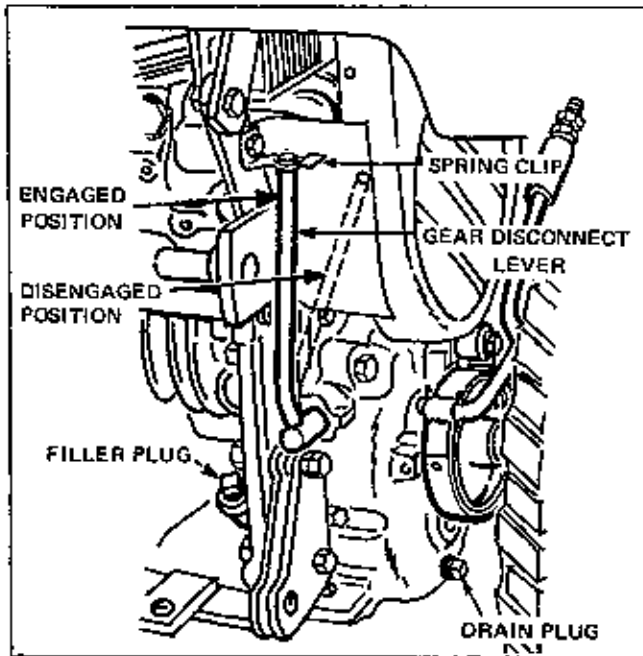

Figure 7
- (1) Rear Axle Tube - Figure 7
The transmission has a capacity of 1-1/2 qts. of SAE 90 oil and is filled at the factory. It will not normally require replenishment, but occasionally check drain plug for tightness and axle tube oil seals for leakage. Maintain oil level at lower edge of filler plug hole. Remove vent plug from top of transmission and allow oil to settle to normal level before checking. See Figure 7.
1. Move the gear disconnect lever, located on the rear of the transmission to a vertical position to engage the transmission. See Figure 7.
This lever is used to engage the transmission for running and to disengage the transmission if the tractor has to be moved without engine power. See Figure 7.